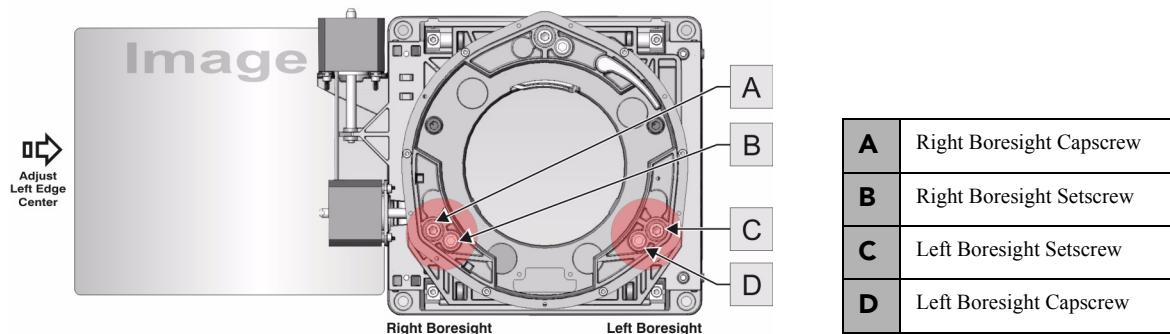

FIGURE 3-13 LEFT/RIGHT IMAGE ADJUSTMENT
5. Adjust both left and right horizontal adjusters by half the number of turns, in the **opposite direction** of the vertical adjust (**Figure 3-13**). For example, if the vertical adjust capscrews was turned 1/8 of a turn, the left and right horizontal capscrews should be turned 1/16 of a turn in the **opposite direction**.
3. Use a 5mm Allen™ key to loosen the setscrew for right boresight (**Figure 3-13, B**).
4. Use the 5mm Allen™ key to turn the right adjust capscrew (**Figure 3-13, A**) 1/16 of a turn clockwise.
5. Adjust the left adjust capscrew **equally** in the opposite direction (**Figure 3-13, D**).